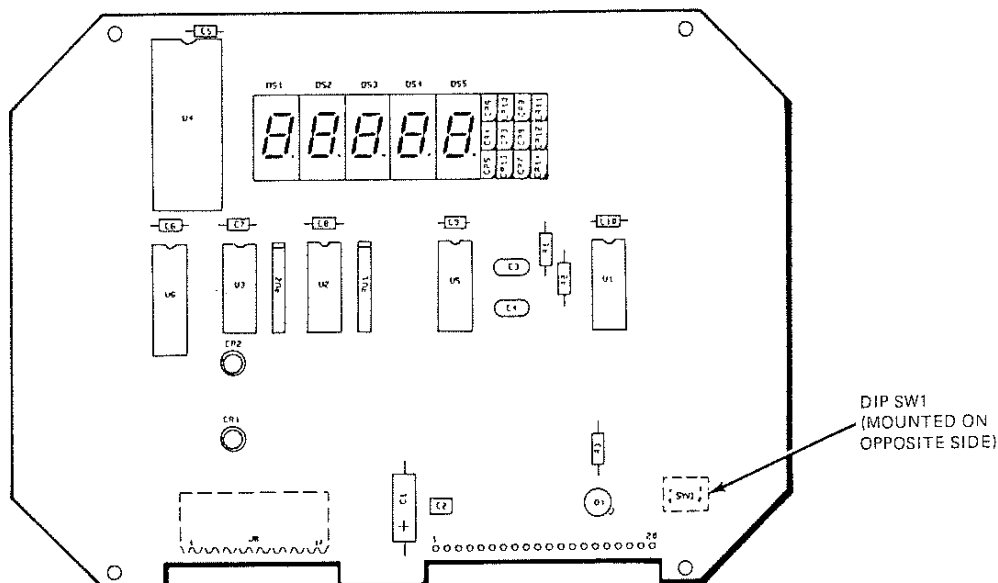

Figure 11. LED Display PWA
5. Refer to Figure 11 for location of DIP SW1 on the display PWA. SW1 has two switches numbered 1 and 2.